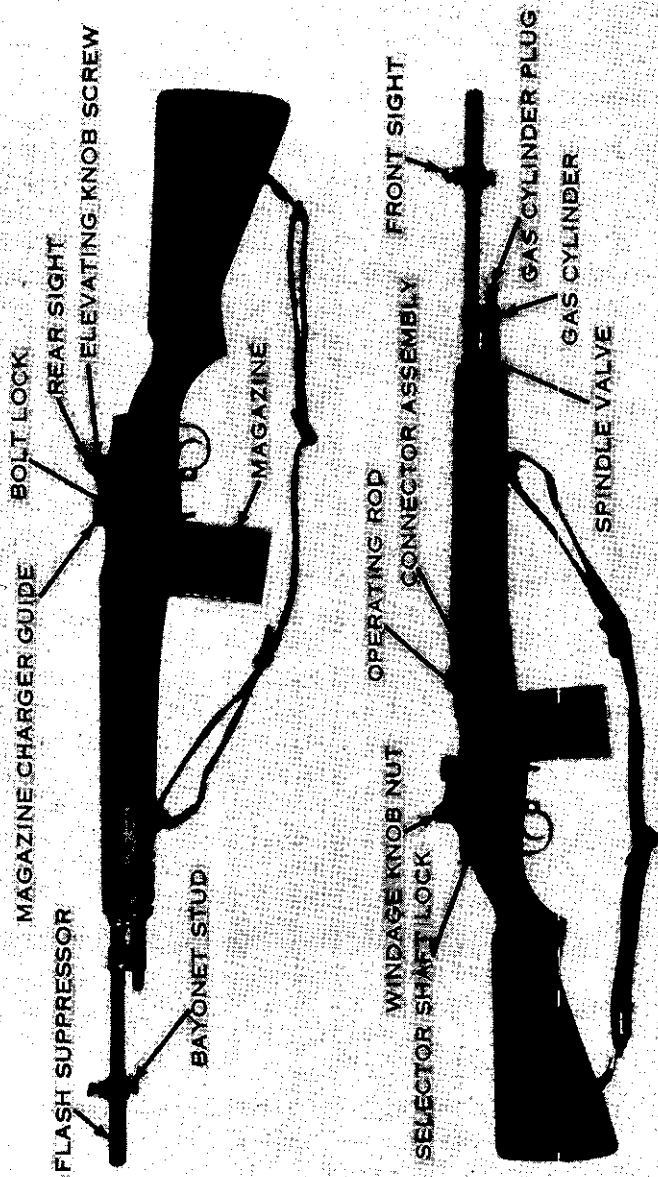

Figure 1. The M14 rifle.
a. The M14 rifle is a 7.62-mm, magazine fed, gas operated, air-cooled, semiautomatic, shoulder type weapon. The front sight is mounted on the flash suppressor. The M14 (fig. 1) is designed primarily for semiautomatic fire, but it can be converted to fire automatic fire by installing a selector.
b. The wide rib on the bottom of the flash suppressor reduces muzzle climb and lessens the amount of dust raised by muzzle blast. There is a lug on the rear of the flash suppressor to accommodate a bayonet and a grenade launcher. The spindle valve (fig. 1) is used when launching a grenade to prevent gas operation of the rifle, thus avoiding possible damage to moving parts and the discharge of unburned powder near the firer's face.